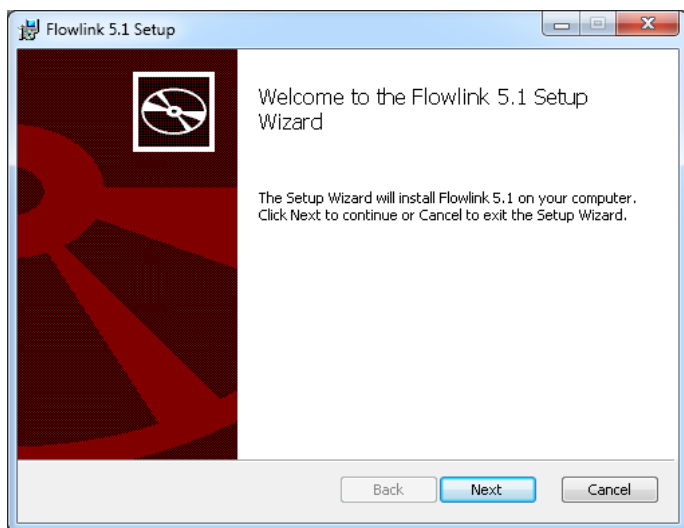

Figure 2-1 Welcome screen
4. The Welcome box is displayed (Figure 2-1). Click the **"Next"** button.